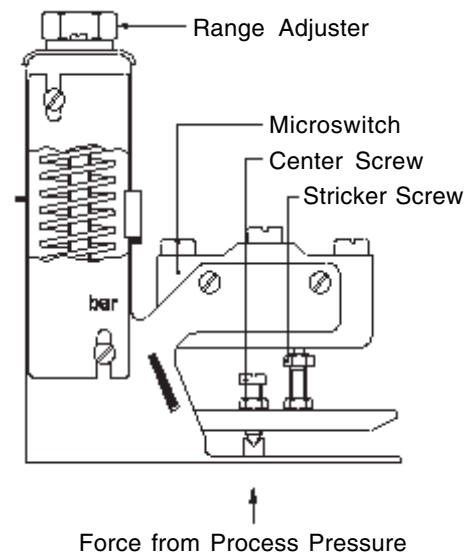

Fig.1 : Fixed On-Off Differential Model
- The center screw and the striker screw are precisely adjusted and factory-set using Loctite. **Alteration** of centre screw height will disturb the contact established between the sensor and the balance beam. **Disturbance** of striker screw will result in microswitch not acting or set-point shift. Ref. Fig 1.